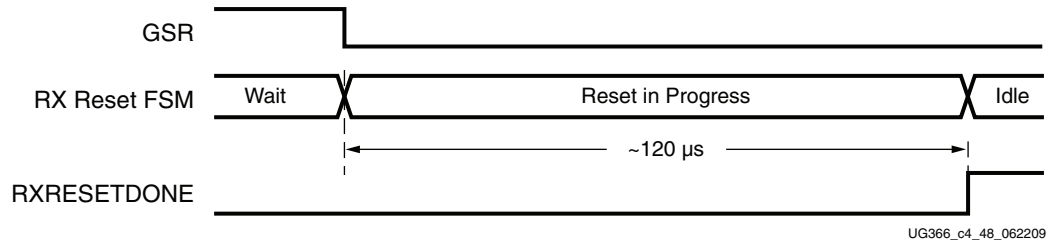
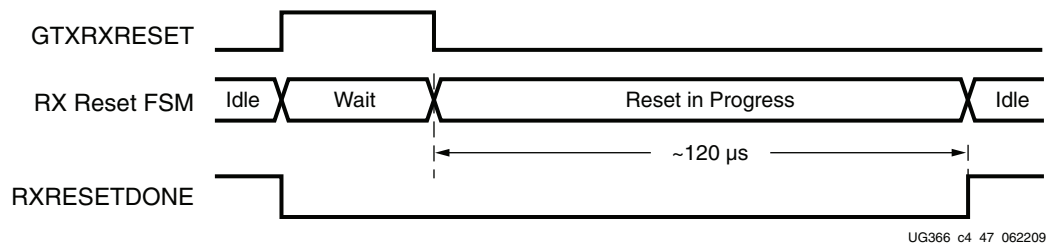

Figure 4-50: Receiver Reset After Configuration
Figure 4-51: Receiver Reset after GTXRXRESET Pulse
Figure 4-50 shows the GTX transceiver RX reset following the completion of configuration of a powered-up GTX transceiver. The same sequence is activated any time RXPLLPOWERDOWN goes from High to Low during normal operation.
**Note:** The timing of the reset sequencer inside the GTX transceiver receiver depends on the frequency of an internal clock and certain configuration attributes. The estimate given in Figure 4-50 assumes that the frequency of the internal clock is 50 MHz with default values for the configuration attributes.
Figure 4-51 is similar to Figure 4-50, showing the reset occurring in response to a pulse on GTXRXRESET. GTXRXRESET acts as an asynchronous reset signal. The guideline for the asynchronous GTXRXRESET pulse width is one period of the reference clock.
**Note:** The timing of the reset sequencer inside the GTX transceiver RX depends on the frequency of an internal clock and certain configuration attributes. The estimate given in Figure 4-51 assumes that the frequency of the internal clock is 50 MHz with default values for the configuration attributes.